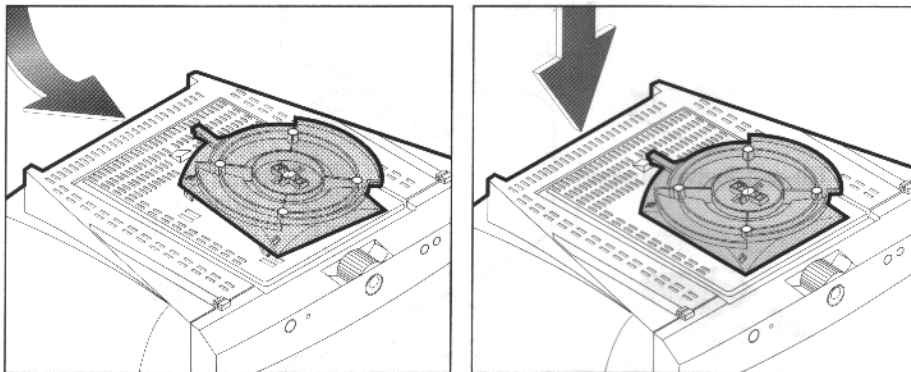

Figure 1: Fastening the base
1. Place the base against the bottom of the monitor so that the base fasteners are aligned with the appropriate slots. See Figure 1.
2. Push the base towards the front of the monitor until the latch locks into position. See Figure 1.